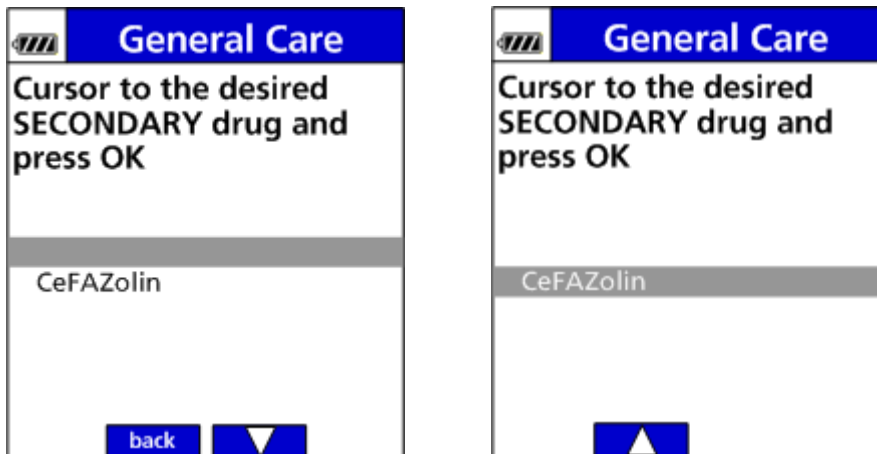

Figure 40. Secondary Drug Selection.
- Use the arrow keys to scroll to the desired drug and press OK. (See Figure 40.)